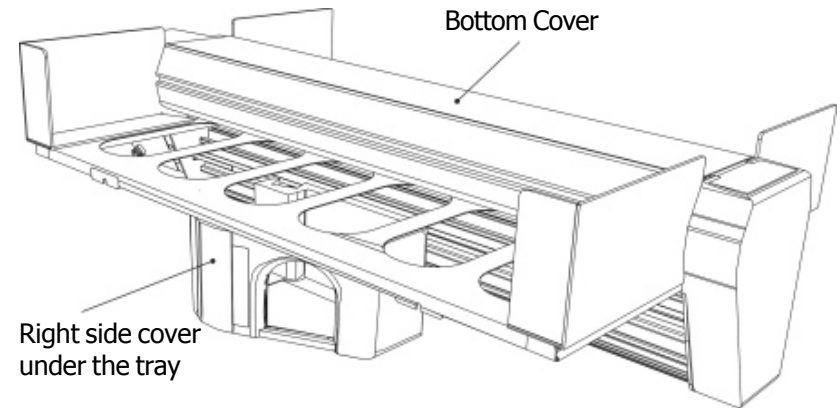

Fig 40 - Turn the 300 over, and place right side cover under tray
4. Use your assistant to help you flip the 300 cutter over onto its top dust cover. Use the right side cover to place under the tray so it doesn't fall over while it's on its top. *See fig. 40*